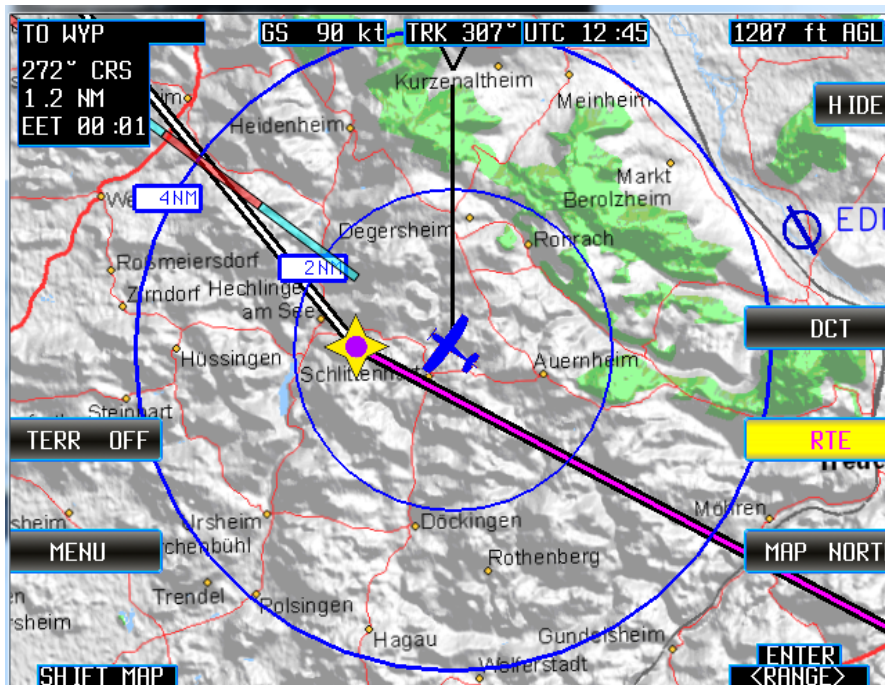

Figure 61: "RTE", Route activated
- The name of the next waypoint is displayed (Figure 61).